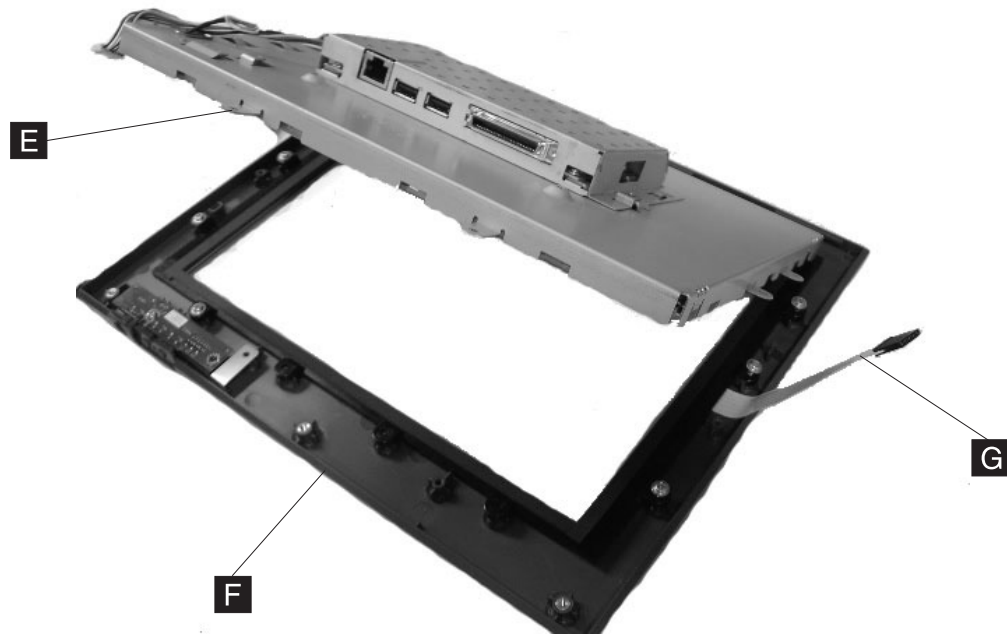

Figure 45. Removing the LCD assembly
6. Remove the six screws holding the LCD assembly ( **E** in Figure 45) and lift to remove.
3. Disconnect the front-bezel-assembly cable ( **G** in Figure 45).
5. Remove the front bezel assembly ( **F** in Figure 45).